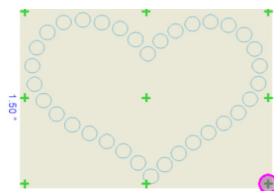

Fig. 13
11. Follow the steps in **Exporting to Edge Cutter** to cut the crystal template design (See Fig. 13)